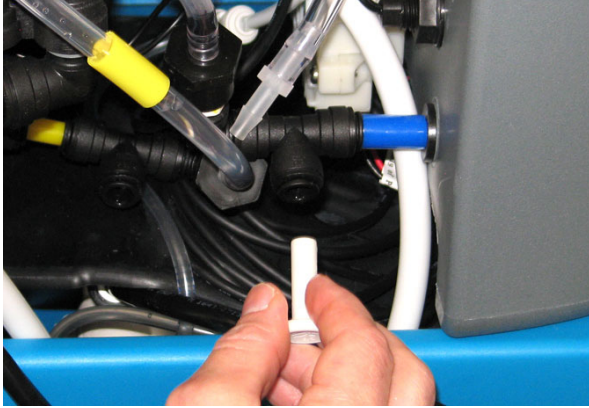

FIG. 32
31. Remove plug from the os3 t-fitting with the blue marking. (Fig. 32)